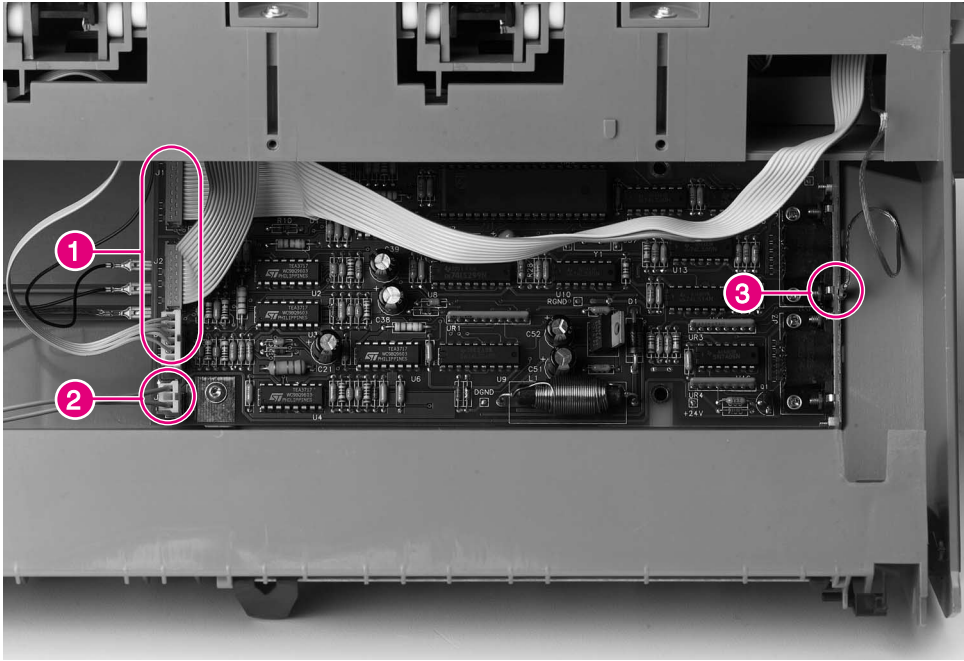

Figure 6-185 Stapler Controller PCA (2 of 3)
- 4 Unplug the cables that are connected to the PCA. Identify their color and size and the ground cables (see figure 6-185, callouts 1 and 2).
- 3 Unplug the ground and signal cables from the right side of the Stapler Controller board, being careful to keep them in the cable holder. See callout 1 and 3 on figure 6-185.
- 6 Disconnect the 2 cables in the hinge containing cables from the Stapler Controller PCA (see figure 6-185 on page 472, callout 2).